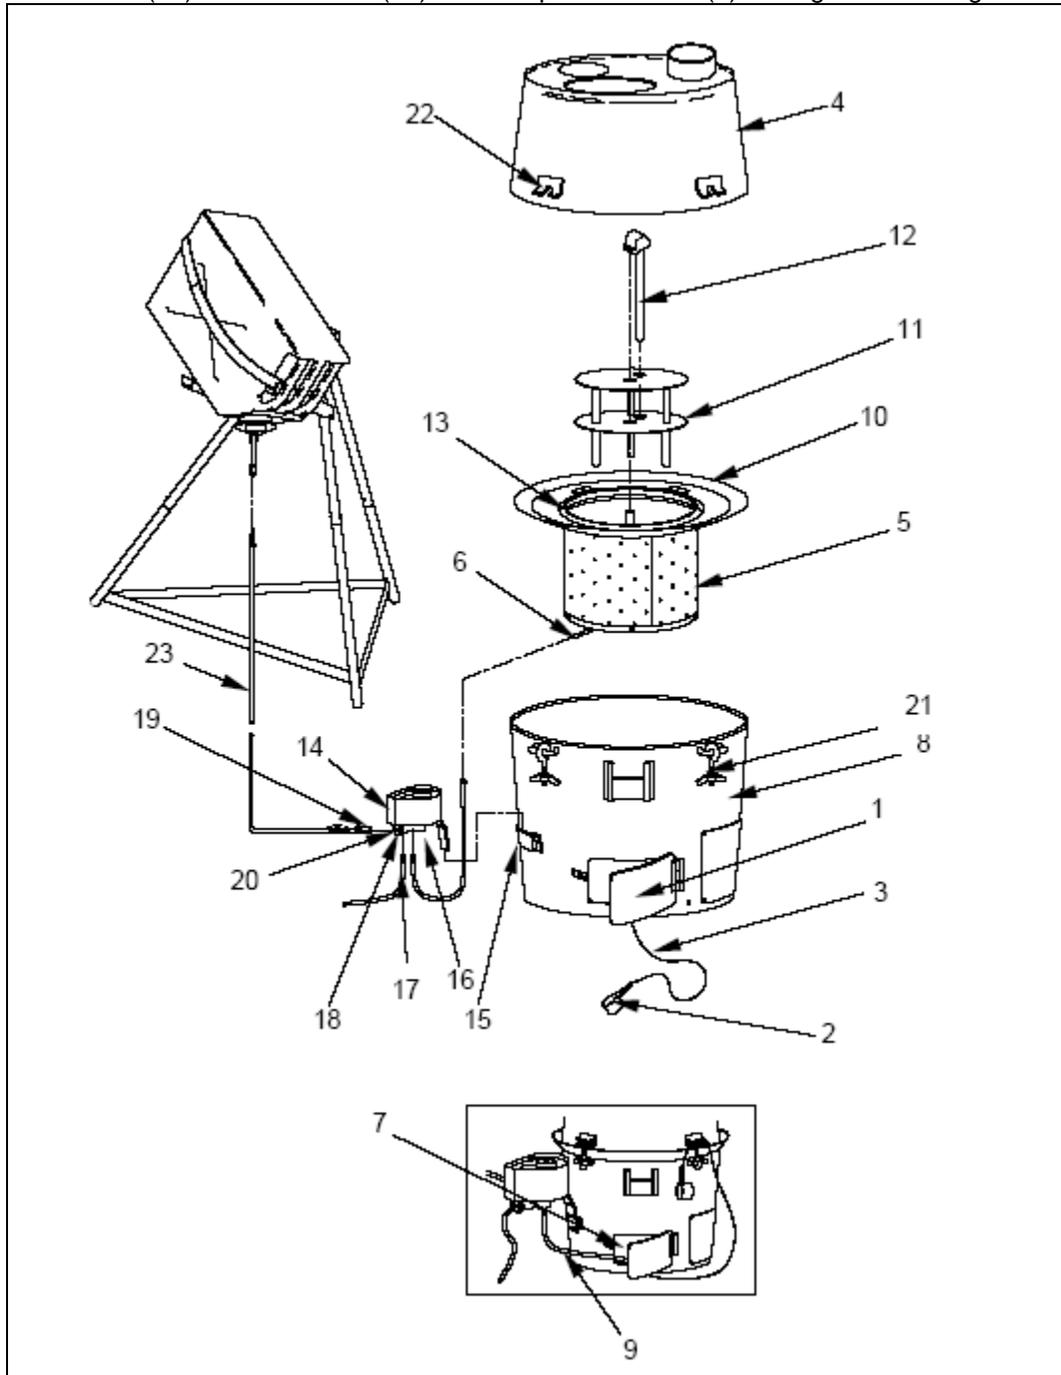

Figure 13
- a. Install and assemble the heater. (see Figure 13)